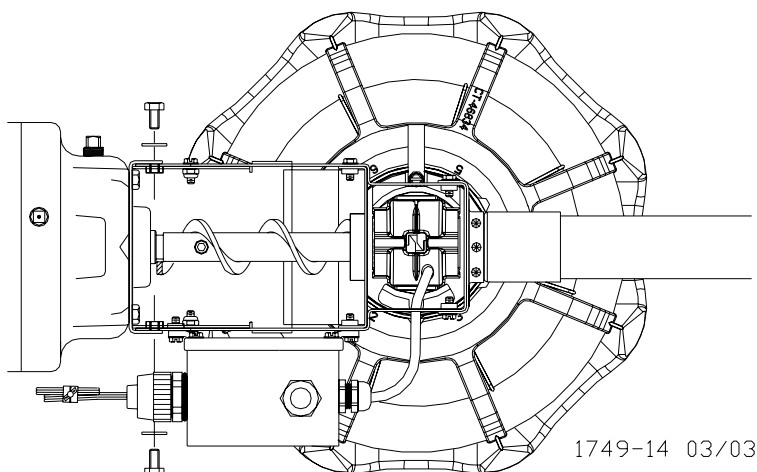

Figure 39. Attaching the Anchor Plate and Gearhead Assembly to the Control Unit Body
7. Attach the Anchor Plate and Gearhead Assembly to the Control Unit Body using the included 1/4" Lock Washers and 1/4-20 x 1/2" Bolts. See **Figure 39**.